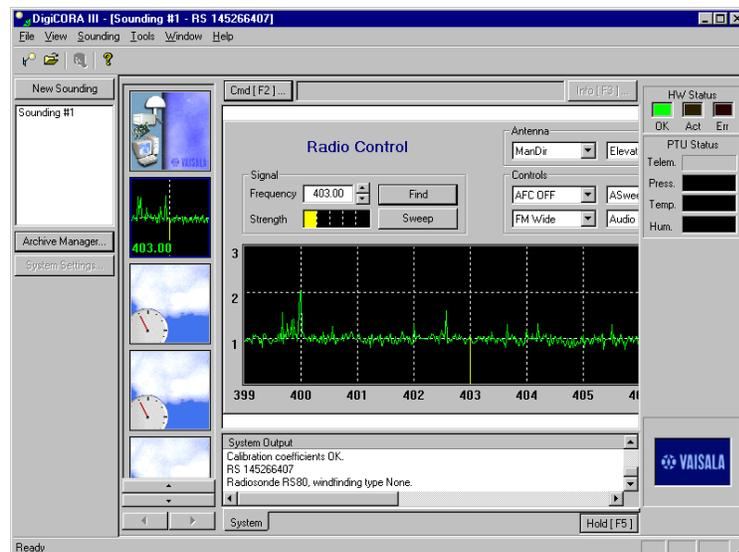

Figure 5
28. The RS92 radiosonde will be transmitting at the frequency you selected. Click on the spectrum window, check frequency, and then click on "Find" so that the DigiCOR can receive the signal (Figure 5).